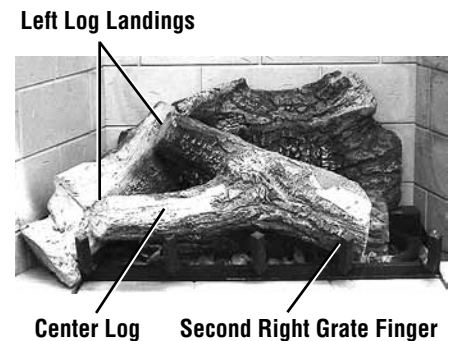

Figure 14
Step 4. Position the center log, see **Figure 14**, with the two branches sitting on the two landings provided on the top of the left log. The other end of the center log has a groove that should fit against the second right finger of the grate, as shown in **Figure 14**.